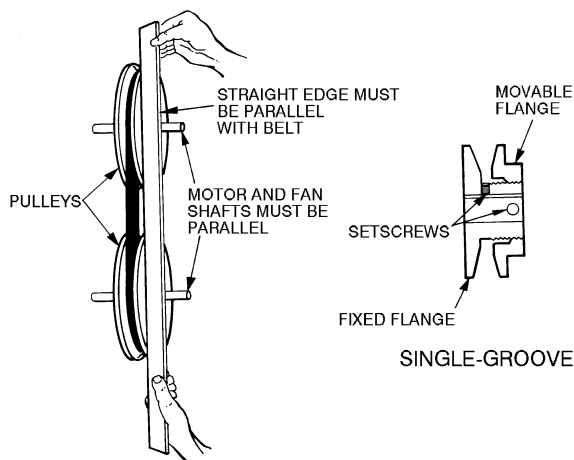

Fig. 28 — Fan Pulley Adjustments
3. Loosen movable pulley flange setscrew (Fig. 28).
Shut off unit power supply. Lock out power supply and tag disconnect locations. Loosen fan motor pulley setscrews and slide fan pulley along fan shaft. Make angular alignment by loosening motor from mounting bracket (see Fig. 28). Check alignment with a straightedge.